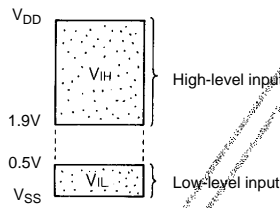

Fig. 3-1
3-1. Low-threshold input port A_0 to $_3$ provides the input characteristic shown in Fig. 3-1.
- Check to see that $V_{ON} + V_{SW}$ meets the V_{IH}/V_{IL} requirement of the input port in Fig. 3-1.